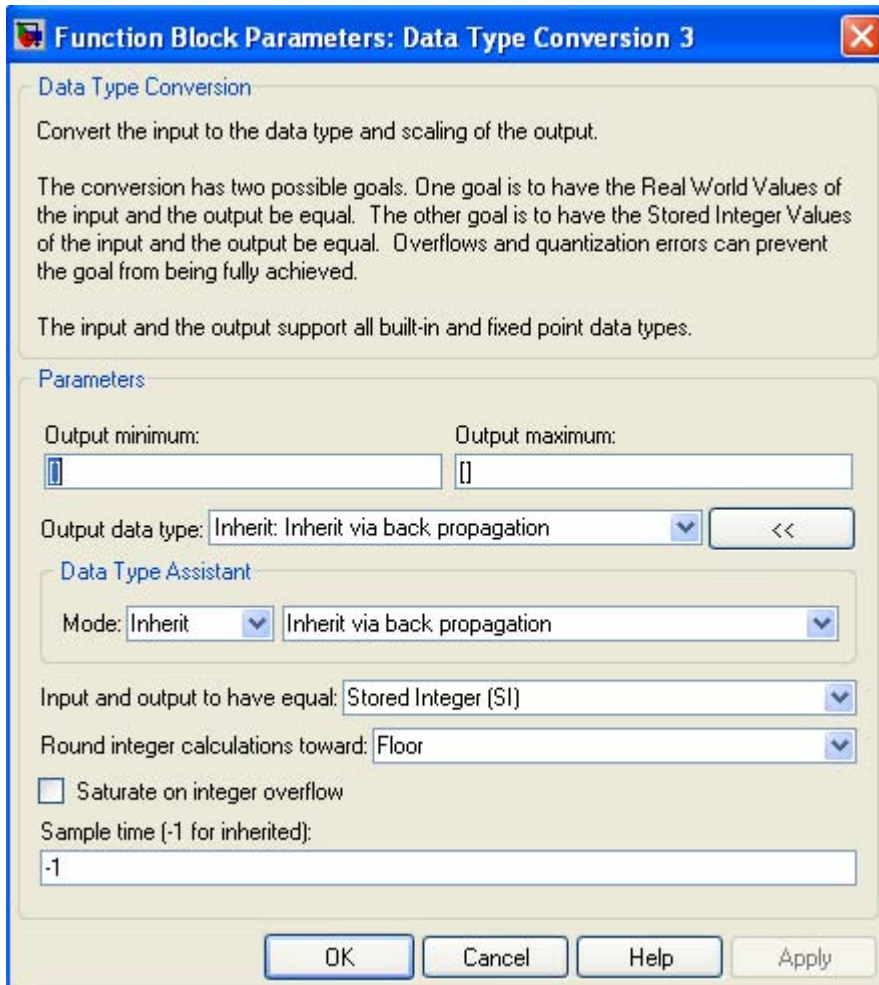

Figure 2.39. Function Block Parameters dialog box for the Data Type Conversion 3 block in Figure 2.36
In the **Data Type Conversion 3** block the input is processed as **Stored Integer (SI)** so that the input is treated as a raw integer with no scaling information and thus **Display 3** block shows the true value 63. The **Function Block Parameters** dialog box for the **Data Type Conversion 3** block is shown in Figure 2.39.